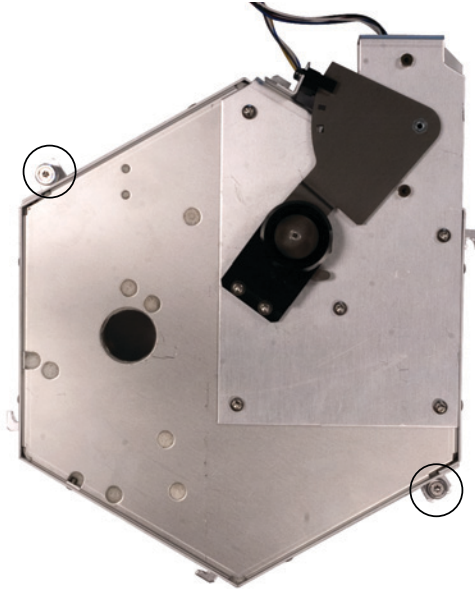

Figure 19 Loosen the thumbscrews on the oven top assembly
- c Completely loosen the two T-20 Torx captive thumbscrews (Figure 19).